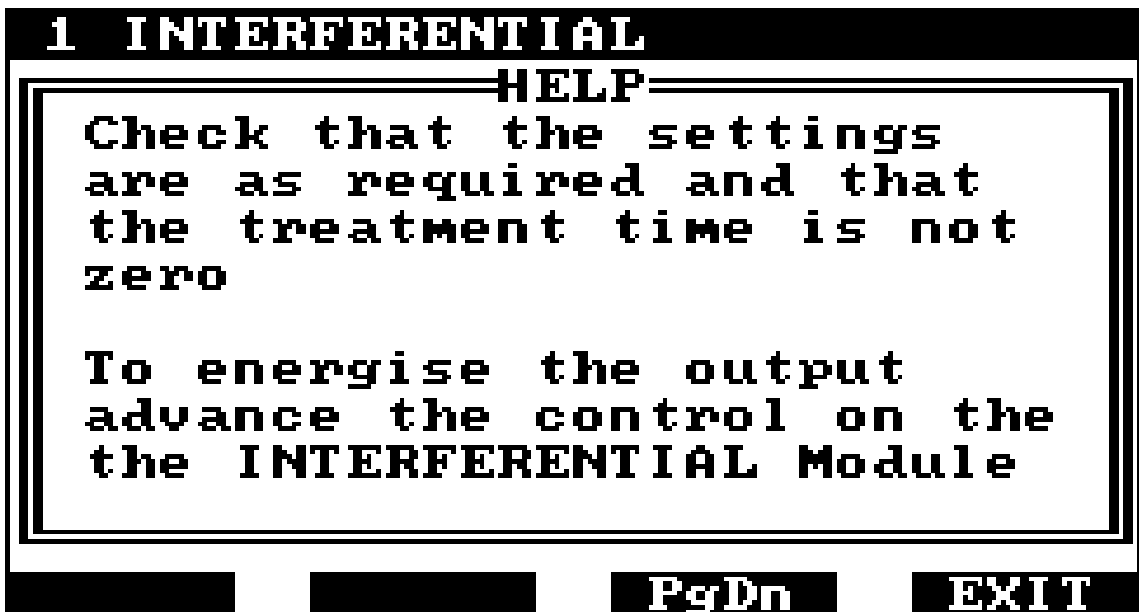

Figure 28 - Help Text Display
22. **F1 - HELP:** When the label for function key F1 is HELP, pressing F1 will suspend the current activity and the display will show help text relevant to the current display or activity (see figure 28) . If the help text is more than can be displayed at one time, it may be scrolled up or down, one line at a time using the up and down arrow keys, or one screen full at a time by pressing F2 - PgUp or F3 - PgDn. To exit from HELP, press F4.